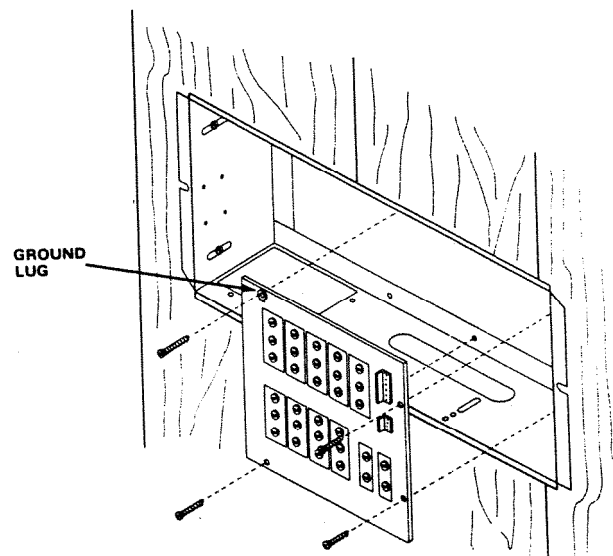

FIGURE 1
1. Refer to Figure 1. Locate the terminal board in the right rear section of the rough-in frame.
2. Refer to Figure 1. Use four No. 6 x 3/8" screws to secure terminal board to rough-in frame.
3. Refer to Figure 1. Make certain that the upper left screw is secure and snug against the ground lug which covers mounting hole in terminal board. Do not bend ground lug – make sure it is positioned between mounting screw and terminal board.